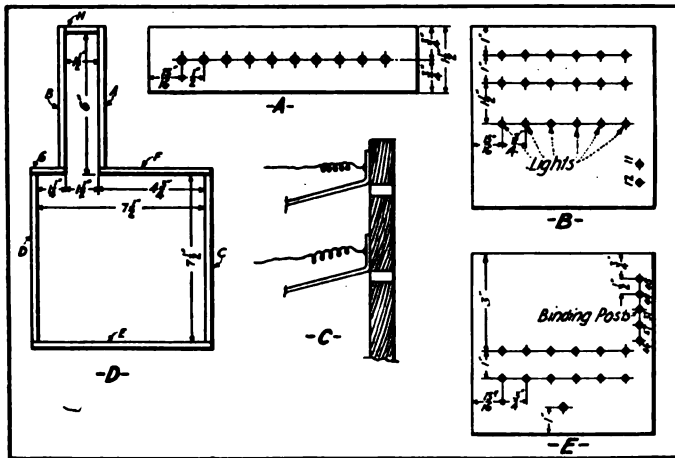

Figure 3—Plan of construction for switchboard
Take the two sides and mount front C on them, then set on bottom E and fasten with screws. Take the back mount G and mark off 10 holes as shown in figure 3, part A, and drill with a $\frac{1}{8}$ " drill; then mount 10 binding posts with a base diameter not to exceed $\frac{1}{4}$ ". Slightly smaller posts
Drill the plug board (F) as shown in figure 3 and mount as shown. Drill the short leads through the holes nearest the front A. Pull the longer leads through the remaining holes.
On the upper front A mark off and drill as per figure 3, part B. Cut twelve strips of copper $\frac{1}{4}$ " wide and $1\frac{1}{2}$ " long. Bend each strip $\frac{1}{2}$ " from one of the ends; mount one over each hole as shown in figure 3, part C.